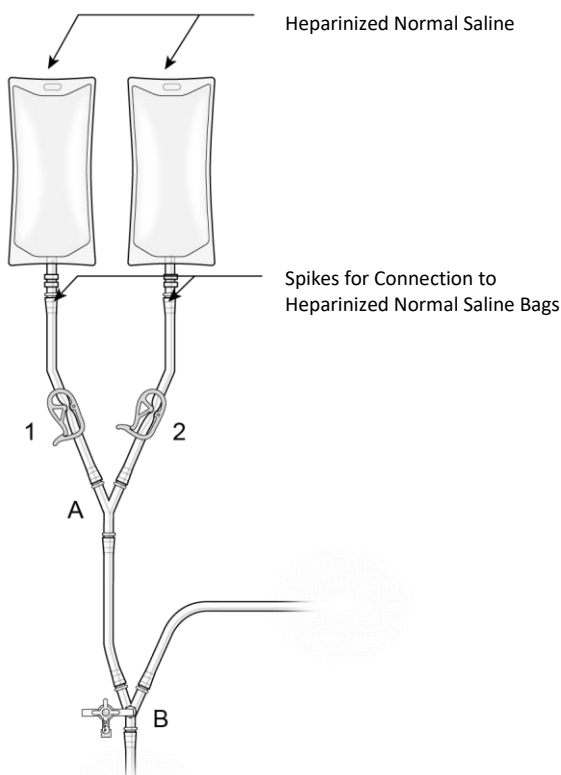

Figure 13
- (I) Hang two bags of the heparinized sterile normal saline and connect to circuit by using the spikes, as shown in Figure 13, to allow for gravity priming of circuit components.